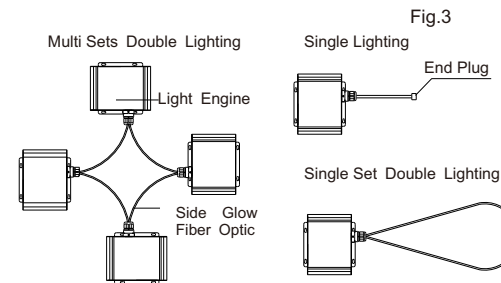

Fig.3
(1) Side Lighting Fiber Optic(see Fig.3).